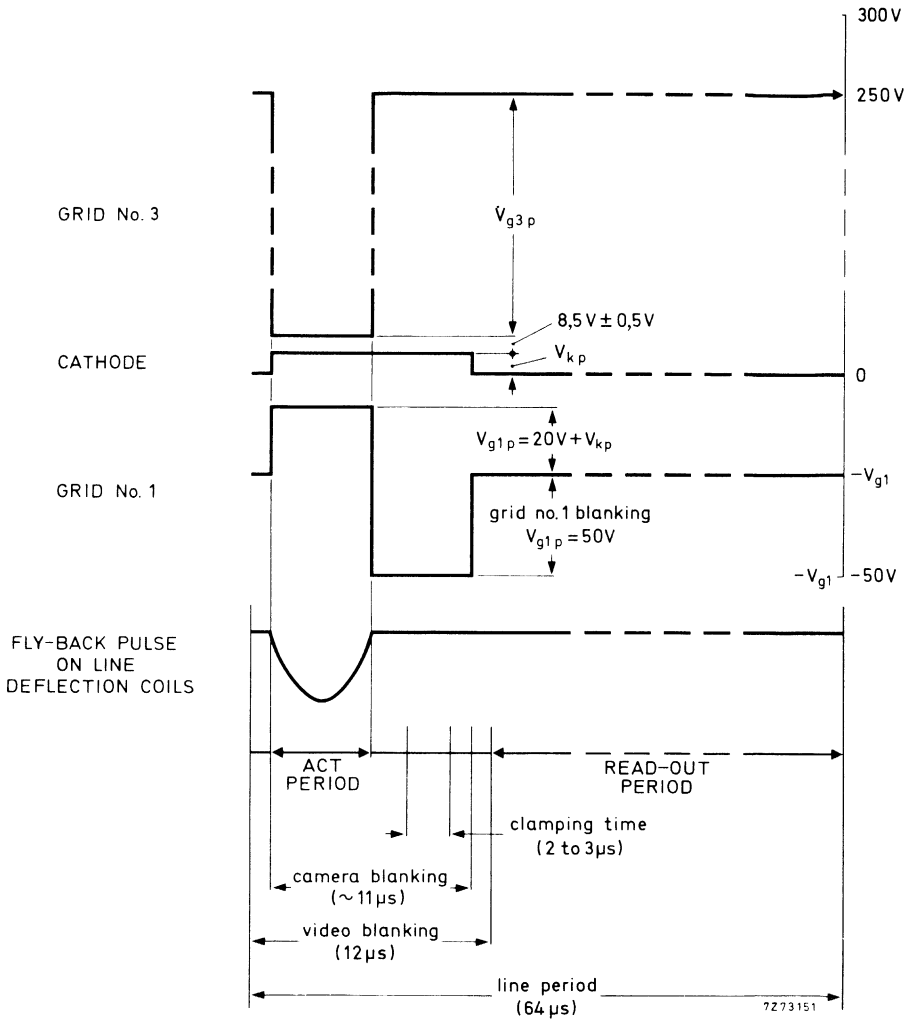

Fig. 1 Pulse timing and amplitude diagram.
- b. A suggested pulse timing and amplitude diagram is shown in Fig. 1.